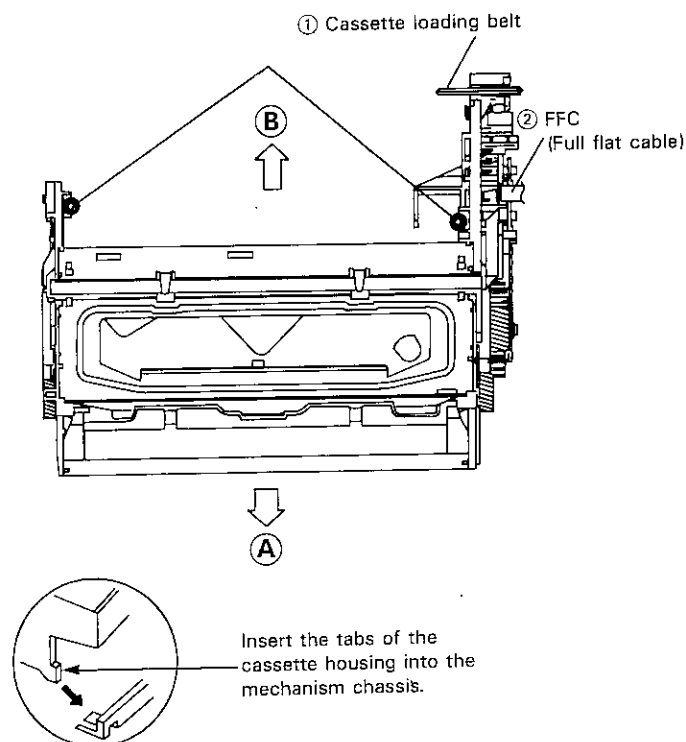

Figure 1-1.
5. Move the cassette housing control assembly (Fig. 1-1) in the direction of arrow ⇒ ⑥, and pull it out straight upward.